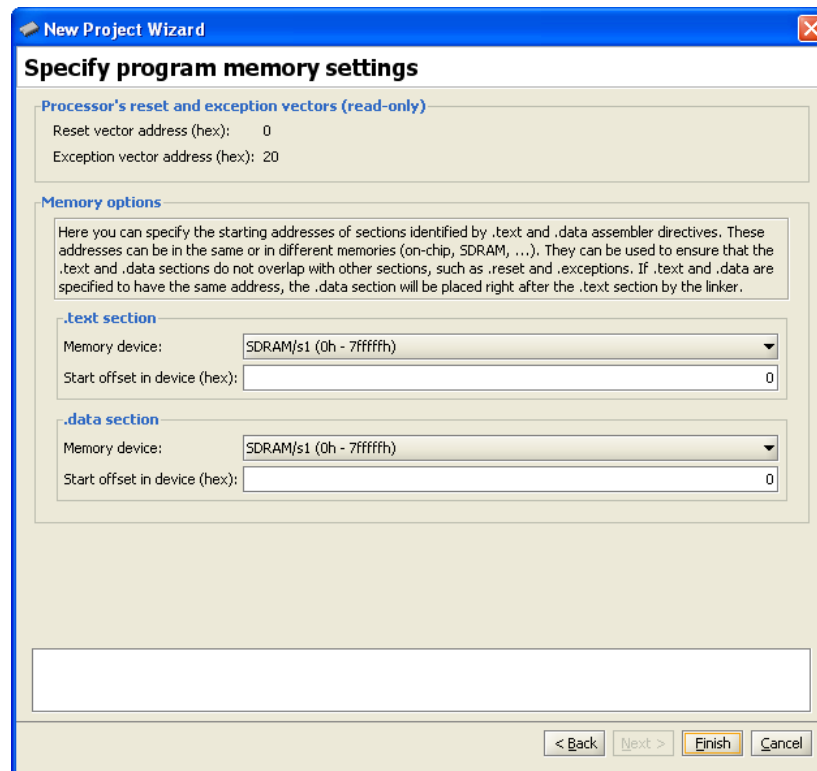

Figure 11. Specifying memory settings.
5. Click **Next** to reach the final screen for creating the new project, shown in Figure 11. This screen is used to specify memory settings that are needed for compiling and linking the program. Nios II programs are stored in a format that supports *sections*, which are used to divide a program into multiple parts, such as an
As illustrated in Figure 11, choose the SDRAM chip in the DE2 Basic Computer as the storage location for both the *.text* and *.data* sections, and use the value 0 for the offset into the memory for both sections. When the offsets for both sections are identical the linker automatically places the *.data* section immediately after the *.text* section.